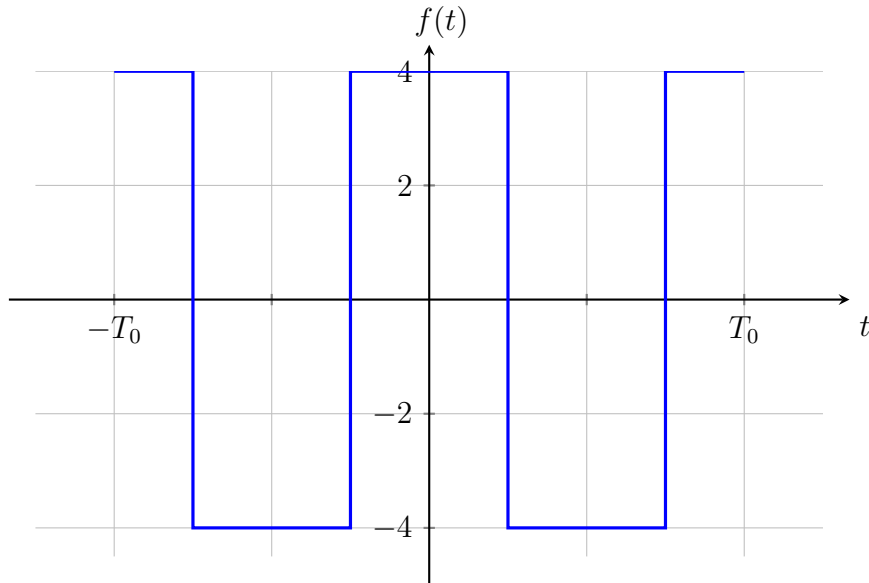
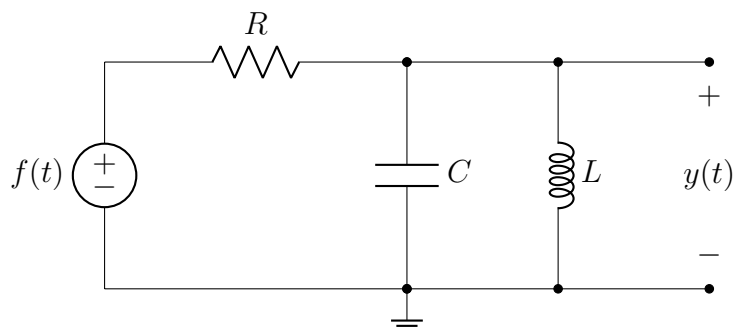

Figure 5.1: 4 V square wave.
Figure 5.2: Series/parallel resonant circuit
Derive the exponential Fourier series for the square wave that has an amplitude of 4 V (8 V peak-to-peak and no DC component seen in Fig. 5.1).
Find the ODE governing the circuit in Figure 5.2. From the ODE, derive the transfer function $H(s)$ from this ODE. In your `ece3210_lab06.py`, add a simulation of the system if the input $f(t)$ is the square wave in Fig. 5.1.
- What ODE governs the circuit in Fig. 5.2?
Connect the 1 k Ω resistor, the 0.033 μ F capacitor, and the 1 mH inductor as shown in Figure 5.2. Connect the input to the function generator and attach a scope probe to the output. Configure the function generator to produce a 20 kHz square wave with a 4 V amplitude. Compare the scope output to your predicted response. It is unlikely they are the same due to part tolerances. The easiest (but not the most accurate) way to compensate is to adjust the frequency until the images are similar. Record your observations and include a conclusion in your Canvas submission summarizing what you have observed or discovered.